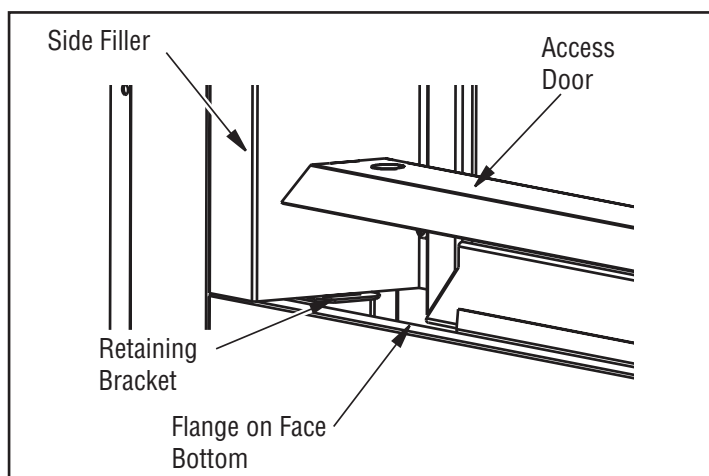

Figure 43 - Access Door for See-Thru Applications
1. Place access door into rectangular opening in front of the glass door with the slanted side facing forward. The slanted surface will slide underneath the flange of the bottom face. Insert tabs on side of access door into slots on retaining brackets (See Figure 43).